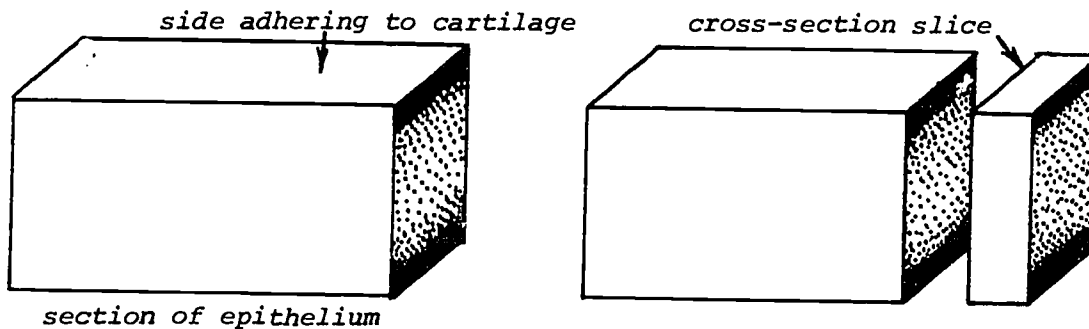

FIGURE 9: *Slicing a section of epithelium (schematic representation).*
d. Slice a thin section of epithelium. The epithelium should be aligned as in Figure 9 prior to slicing.